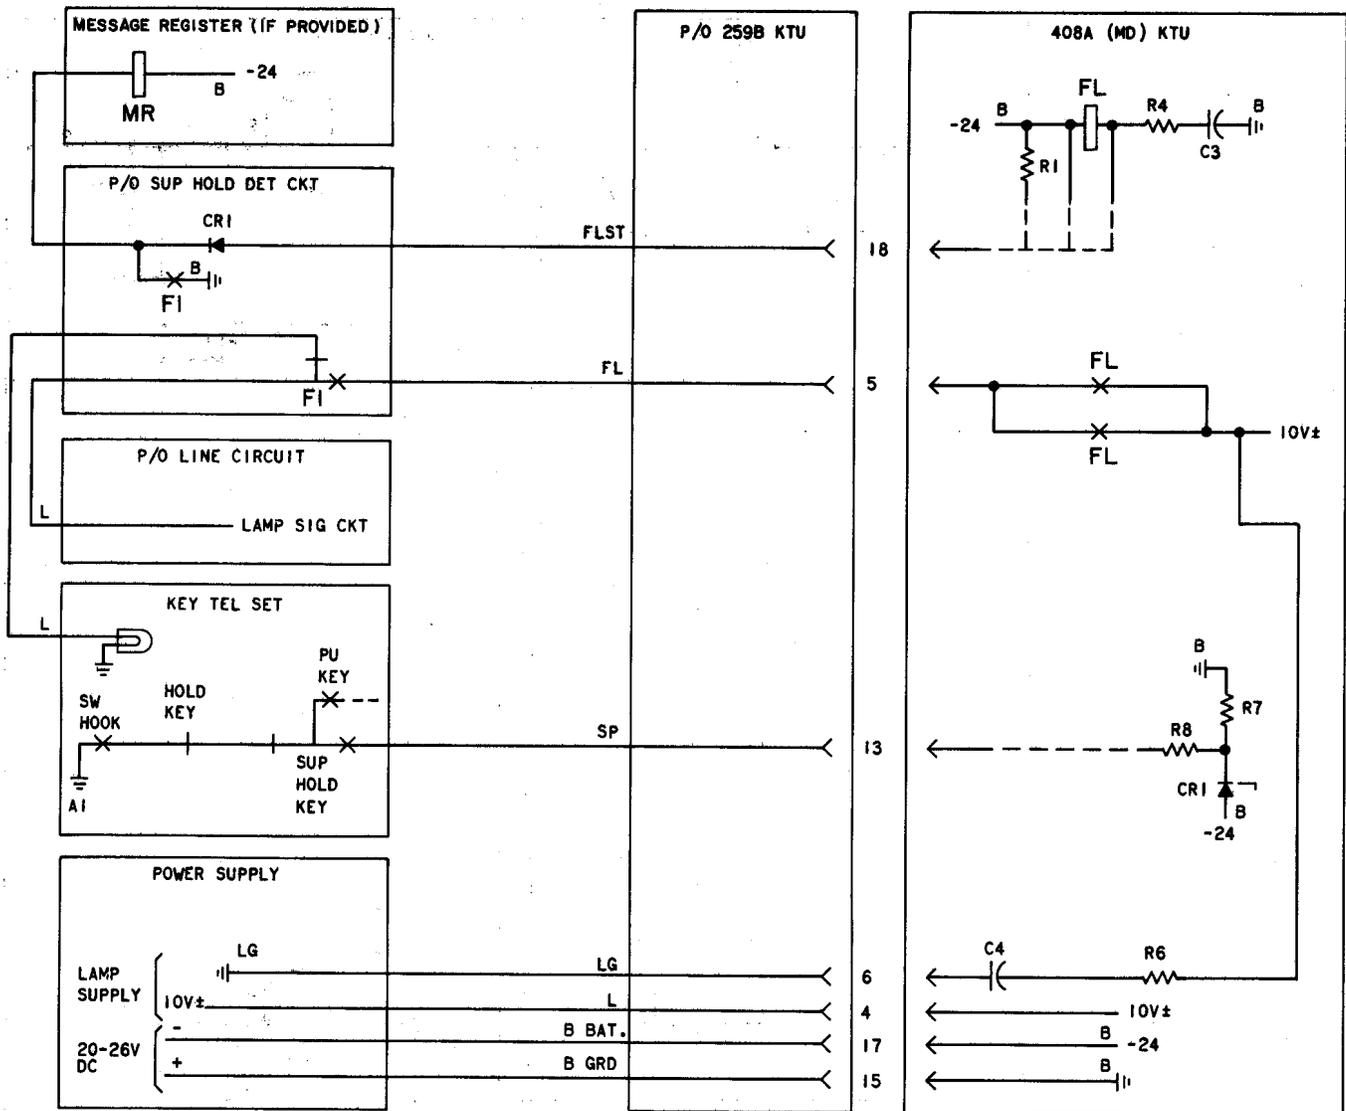

Fig. 5—Condensed Functional Schematic of 408A KTU (MD) (Flutter Generator Circuit)
C. 408A KTU (MD) (Flutter Generator Circuit)
2.03 The 408A KTU (MD) (Fig. 5) is a 4-inch, 18-contact unit which must be used with a 259B or 272A KTU. The 408A KTU has been replaced by the 430A KTU (see paragraph 2.09 for features) which conforms to standard contact lead configuration.